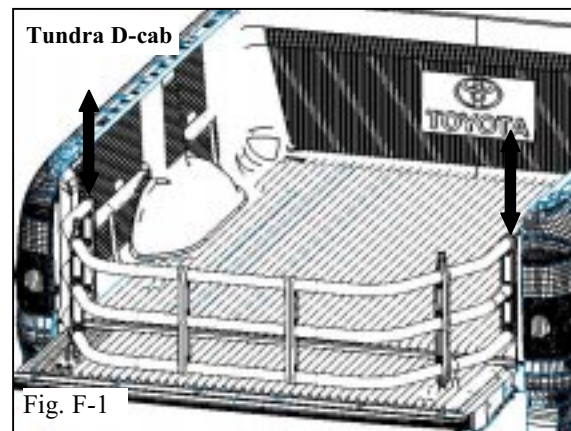

Fig. F-1
- ii. Push down on stanchions until Bed Extender locks into place on both sides (Fig F-1).
- ii. Lift up on stanchion until pivot is out of mounting bracket (Fig F-1).